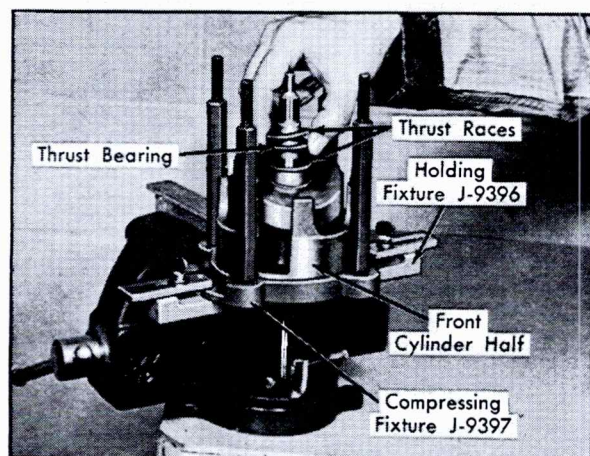

Fig. 1-63 Installing Rear Thrust Races and Bearing
5. Install a zero thrust race on rear end of compressor shaft so that it rests on hub of swash plate. Then install thrust bearing and a second zero thrust race, Fig. 1-63. Lubricate races and bearing with petrolatum.